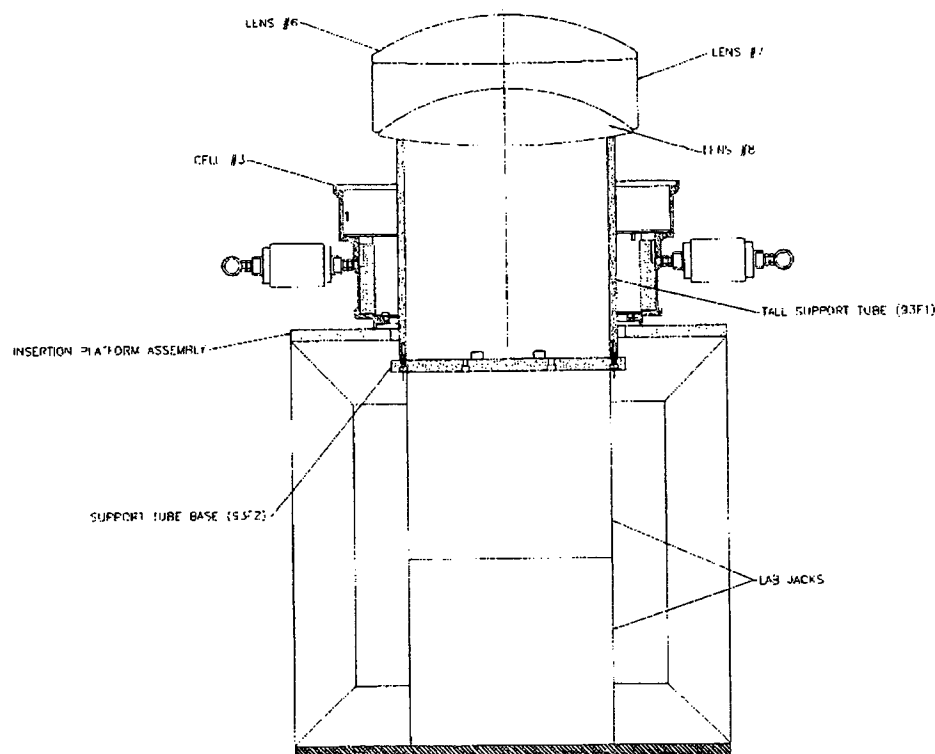

FIGURE 6: CELL #3 LENS INSTALLATION FIXTURE- SECTION VIEW
1. Attach the tall support tube (93F1) to the support tube base (93F2) with six screws, as shown in figures 6 and 8. Bolt this assembly to the previously assembled lab jacks (from cell #4 assembly). Bolt the cell #2 insertion platform (93F6) to the vertical supports in place of the cell #4 insertion platform.
2. Place the pre-assembled cell #3 down on the insertion platform, with the tall tube protruding through the insertion platform centered in the center of the cell, as shown in Figure 6.
3. Raise the support tube with the jacks so that it extends out the top of the cell, as shown in figure 6.
5. Place lens #8 on the tall delrin support tube (#93F1) with R16 down, as shown in Figure 6. Refer to Optical Layout drawing #0A in Appendix B to identify surface R16.
7. Slowly place lens #7 down onto lens #8 by gloved hand until lens #8 comes to rest on the three axial spacer pads (see figure 6).
10. Slowly place lens #6 down onto lens #7 by gloved hand with R12 down until lens #6 comes to rest on the three axial spacer pads (see Figure 6). Be careful to keep coupled lenses #7 and #8 together- not allowing them or the Kapton shims to shift with respect to each other during this operation. A second person should stabilize lenses #7 & #8 on the tall support tube during this operation.